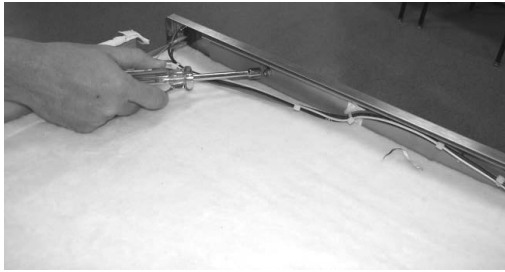

Figure 4
7. Using a 5/16" socket or wrench, remove the 5 nuts on the rear of the front panel. Figure 4.